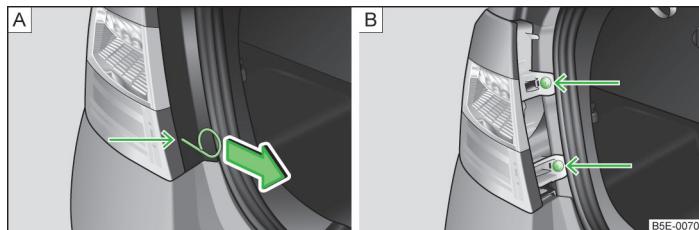

Fig. 219 Remove cover/light
- Insert the clamp for removing the wheel trims » page 215, *Car tool kit* into the hole at the position indicated by the arrow » Fig. 219 - [A].
- Remove the cover in the direction of the arrow » Fig. 219 - [A].
- Use the screwdriver from the tool kit » Fig. 219 - [B] to unscrew the lamp.